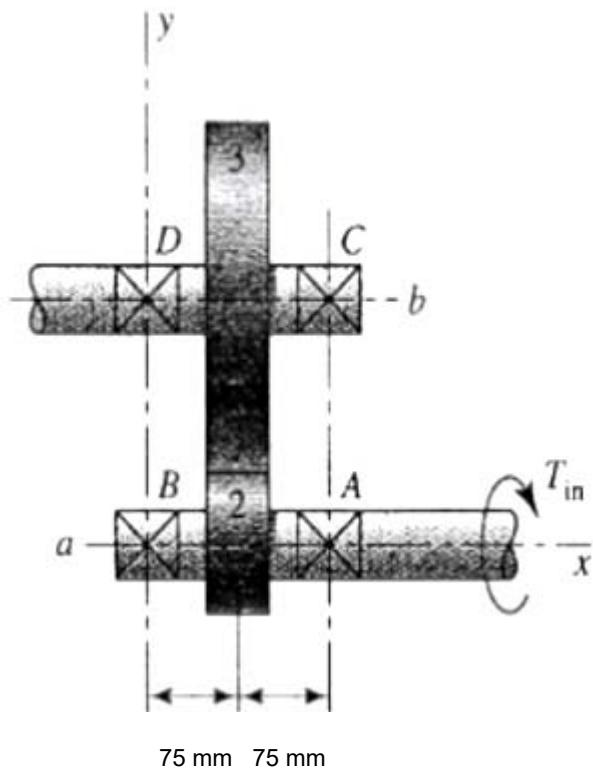

Figure 1(a)
1. (a) Figure 1(a) shows a pair of shaft-mounted spur gears having a diametral pitch of 5 teeth/25.4 mm with an 18-tooth  $20^\circ$  pinion driving a 45-tooth gear. The power input is 60 kW at 1800 rev/min.